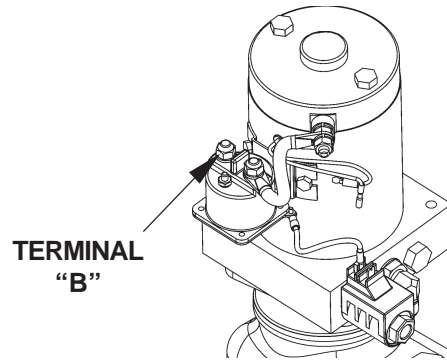

FIG. 64-1
1. Use voltmeter to verify that power is being supplied to Solenoid Terminal "B". Recharge the battery if voltmeter indicates less than 12.6 Volts (**FIG. 64-1**).